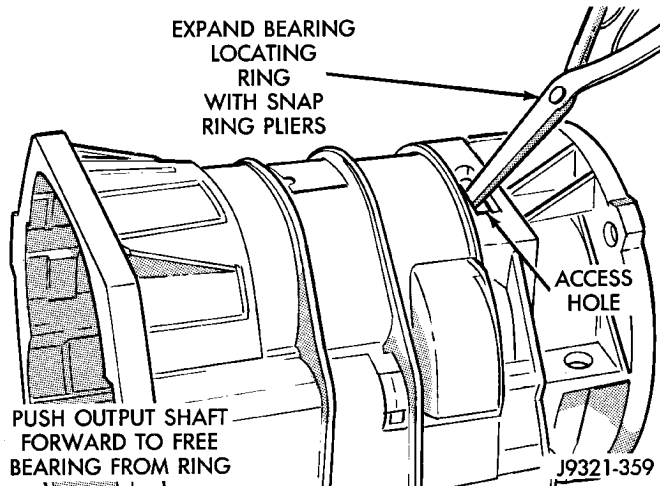

Fig. 205 Releasing Bearing From Locating Ring
(5) Expand output shaft bearing snap ring with expanding-type snap ring pliers. Then push output shaft forward to release shaft bearing from locating ring (Fig. 205).